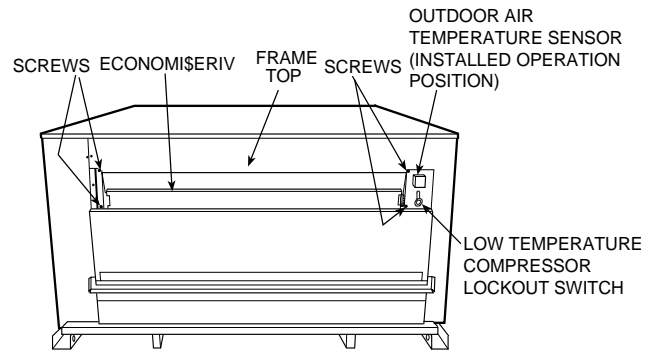
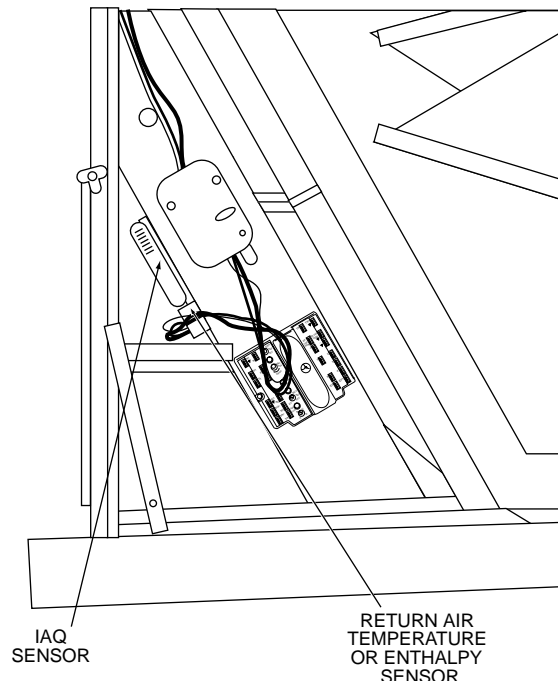
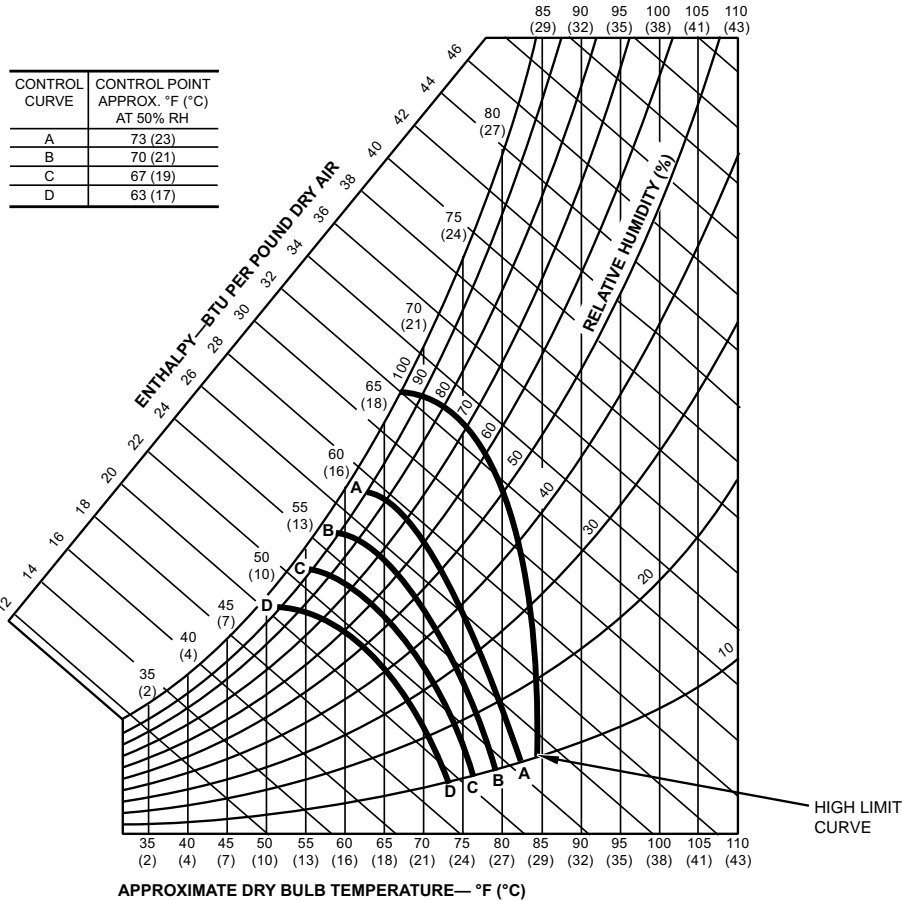
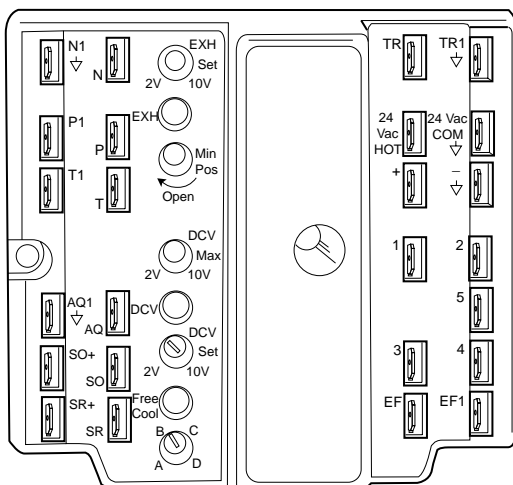

Fig. 19 — EconoMiSerIV Component Locations — End View
Fig. 24 — Return Air Temperature or Enthalpy Sensor Mounting Location
Fig. 25 — Enthalpy Changeover Set Points
Fig. 26 — EconoMiSerIV Controller
OPTIONAL ECONOMISERIV — See Fig. 19 and 20 for EconoMiSerIV component locations.
2. Relocate outdoor air temperature sensor from shipping position to operation position on EconoMiSerIV. See Fig. 19.
Outdoor Air Temperature (OAT) Sensor — The outdoor air temperature sensor (HH57AC074) is a 10 to 20 mA device used to measure the outdoor-air temperature. The outdoor-air temperature is used to determine when the EconoMiSerIV can be used for free cooling. The sensor must be relocated. See Fig. 19. The operating range of temperature measurement is 4 to 38 C (40 to 100 F).
Low Temperature Compressor Lockout Switch — The EconoMiSerIV is equipped with a low ambient temperature lockout switch located in the outdoor airstream which is used to lock out the compressors below a 6 C (42 F) ambient temperature. See Fig. 19.
Differential Dry Bulb Control — For differential dry bulb control the standard outdoor dry bulb sensor is used in conjunction with an additional accessory return air sensor (part number CRTEMPSN002A00). The accessory sensor must be mounted in the return airstream. See Fig. 24.
Outdoor Enthalpy Changeover — For enthalpy control, accessory enthalpy sensor (part number HH57AC078) is required. Replace the standard outdoor dry bulb temperature sensor with the accessory enthalpy sensor in the same mounting location. See Fig. 19. When the outdoor air enthalpy rises above the outdoor enthalpy changeover set point, the outdoor-air damper moves to its minimum position. The outdoor enthalpy changeover set point is set with the outdoor enthalpy set point potentiometer on the EconoMi\$erIV controller. The set points are A, B, C, and D. See Fig. 25. The factory-installed 620-ohm jumper must be in place across terminals SR and SR+ on the EconoMi\$erIV controller. See Fig. 26.
Replace the standard outside air dry bulb temperature sensor with the accessory enthalpy sensor in the same mounting location. See Fig. 19. Mount the return air enthalpy sensor on the EconoMiSerIV. See Fig. 24. When using this mode of changeover control, turn the enthalpy set point potentiometer fully clockwise to the D setting.